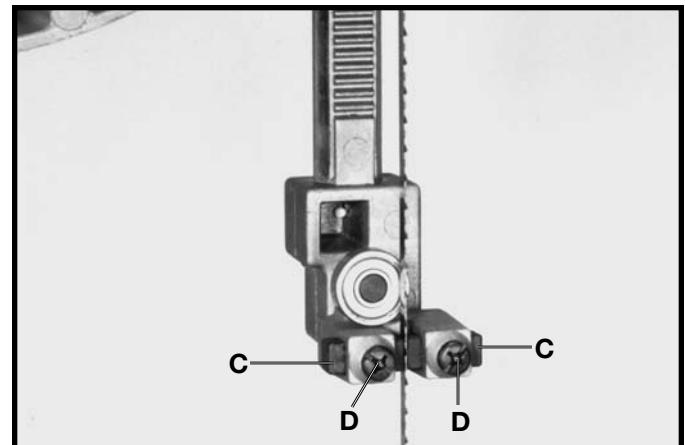
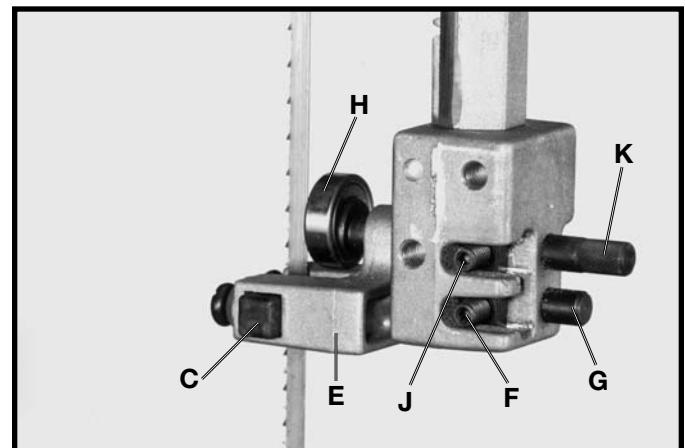

Fig. 23
Fig. 24
3. The upper blade guides (C) Fig. 23, are held in place by means of the screws (D). Loosen screws (D) to move the guides (C) as close as possible to the sides of the blade, being careful not to pinch the blade between the guides. Then tighten the screws (D).
4. The guides (C) Fig. 23, should then be adjusted so that the front edge of the guides are just behind the "gullets" of the blade teeth. The complete guide block bracket (E) Fig. 24, can be moved in or out by loosening screw (F) Fig. 24 and moving shaft (G) Fig. 24 in or out as desired. When guides (C) Fig. 23 are set properly, tighten screw (F) Fig. 24.
5. The upper blade support bearing (H) Fig. 24, supports the back of the blade during the cutting operation and also prevents the blade from being pushed too far to the rear, which could damage the set in the blade teeth. The support bearing (H) should be set about $1/64$ behind the blade by loosening screw (J) and moving shaft (K) in or out. Then tighten screw (J).
6. The upper blade support bearing (H) Fig. 24, should also be adjusted so the back edge of the blade overlaps the outside diameter of the ball bearing by approximately $1/8$. The bearing shaft (K) is on an eccentric and to change bearing position, loosen screw (J) and rotate shaft (K) until correct adjustment is made. Then tighten screw (J).